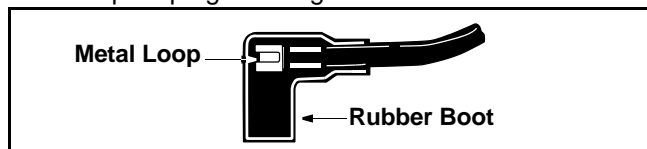

Figure 8
- Attach spark plug wire to spark plug. Make certain the metal loop on end of the spark plug wire (inside the boot) is fastened securely over the metal tip on the spark plug. See Figure 8.